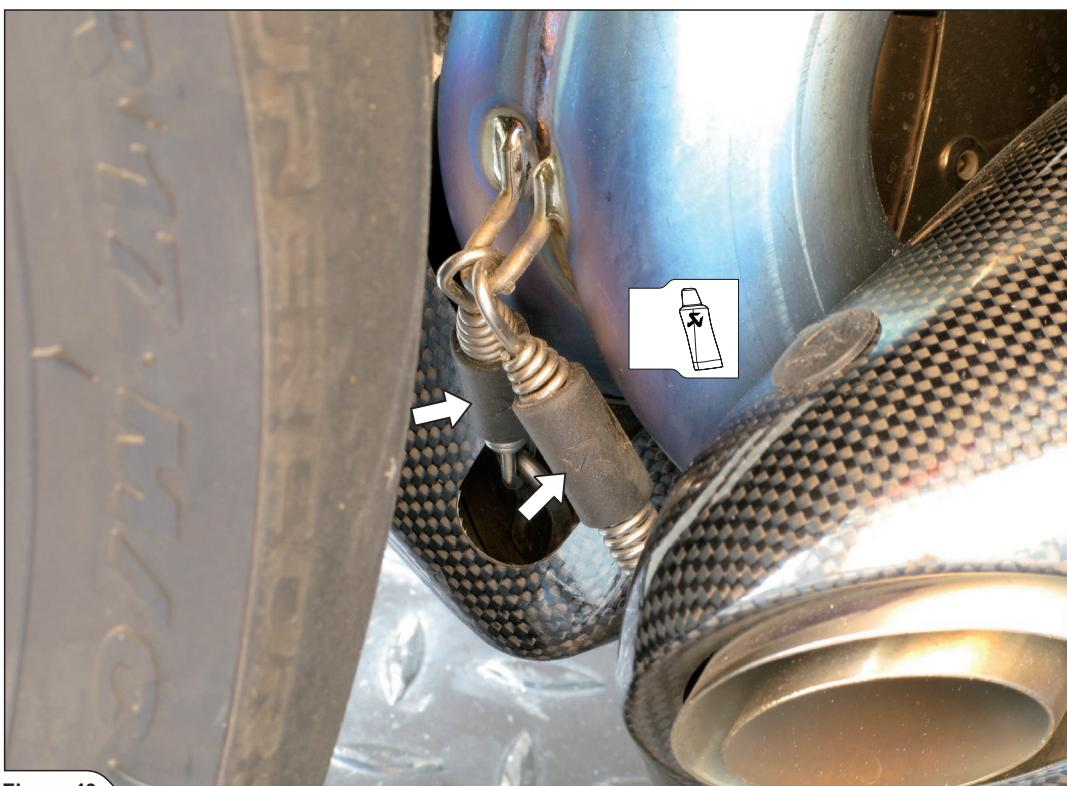

Figure 40
11. Slide the mufflers onto the outlets of the collector, hand tighten the mufflers' bracket bolts and attach the springs (Figure 40).